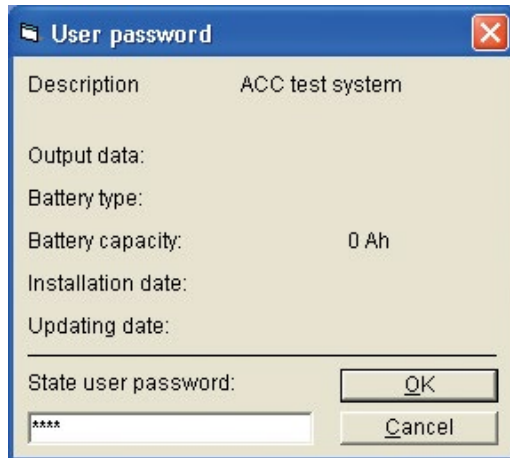

Figure 16 - Password
7. Enter the password (1234 by default) and press OK, Figure 16.